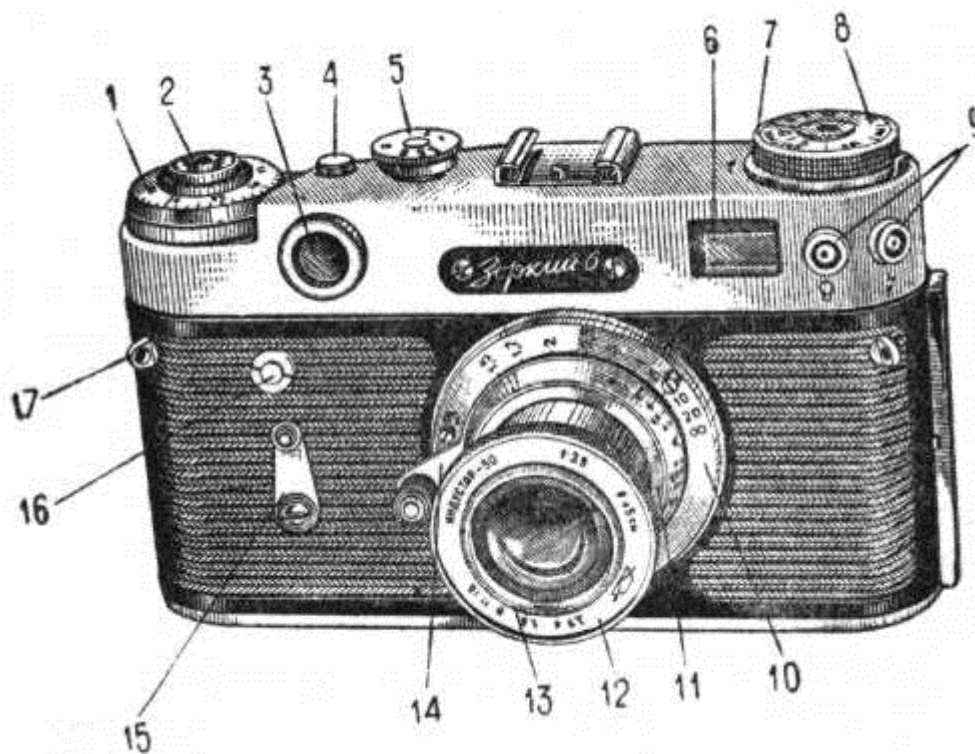

Fig. 1
- (c) lens "Industar-50" (Fig. 1), in sliding and fixed mounts.
### 3. Camera Loading (Figs. 1, 2, 4)
#### **4. Camera Optical System: Lens, Range-Finder, View-Finder (Figs. 1 and 2)**
### **5. Flash Synchronizer (Fig. 1)**